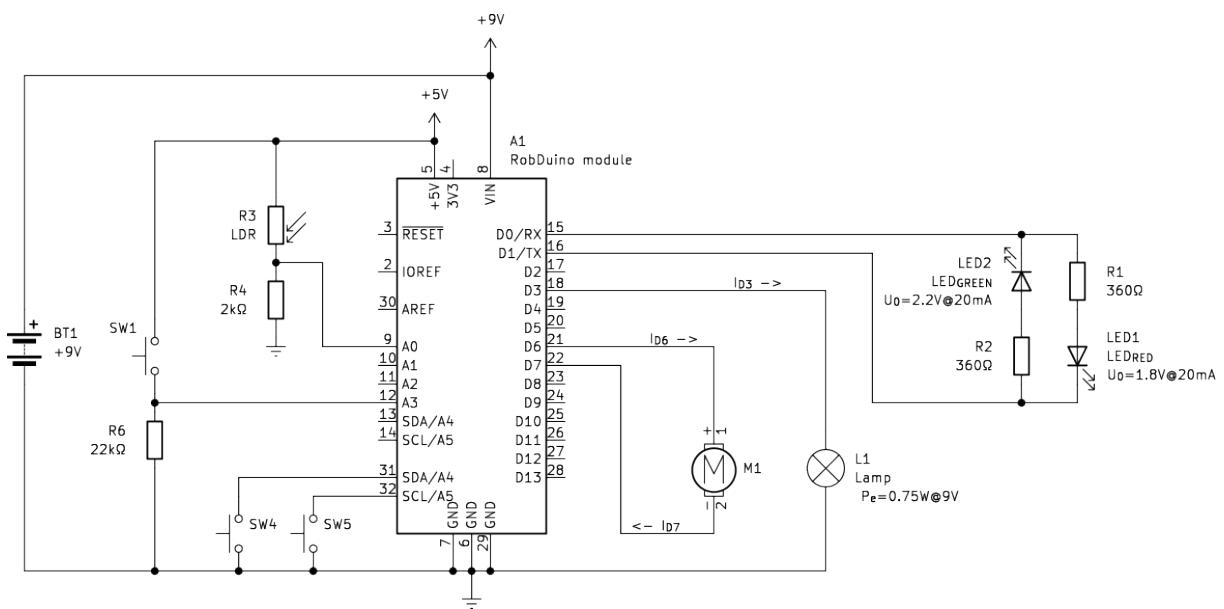

Figure 3.3: Example of typical electrical scheme of robotic device with one degree of freedom.
1. Consider a simple robotic arm that uses a DC motor for movement (fig. 3.3). If the motor has a resistance of 20Ω and is connected to a 9V power supply, Ohm's Law can determine the current flowing through the motor: